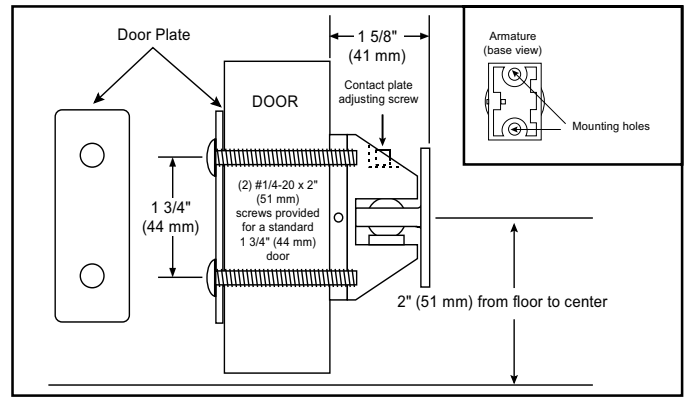

Figure 5. Thru-Bolt Mounting (Cat. Series 1505 shown)
- Using a 5/32" Allen wrench, turn the contact plate adjusting screw (Figures 5 and 6) counterclockwise to loosen the contact plate.
- Thru-bolt mounting (Figure 5).** Center punch the two holes (at the points marked in step 3) and drill 5/16" diameter through the door. Distance between the center points should equal 1 3/4".
Secure the armature assembly, with the contact plate adjust screw facing down, to the door as shown in Figure 5 using (2) #1/4-20 x 2" screws (supplied)